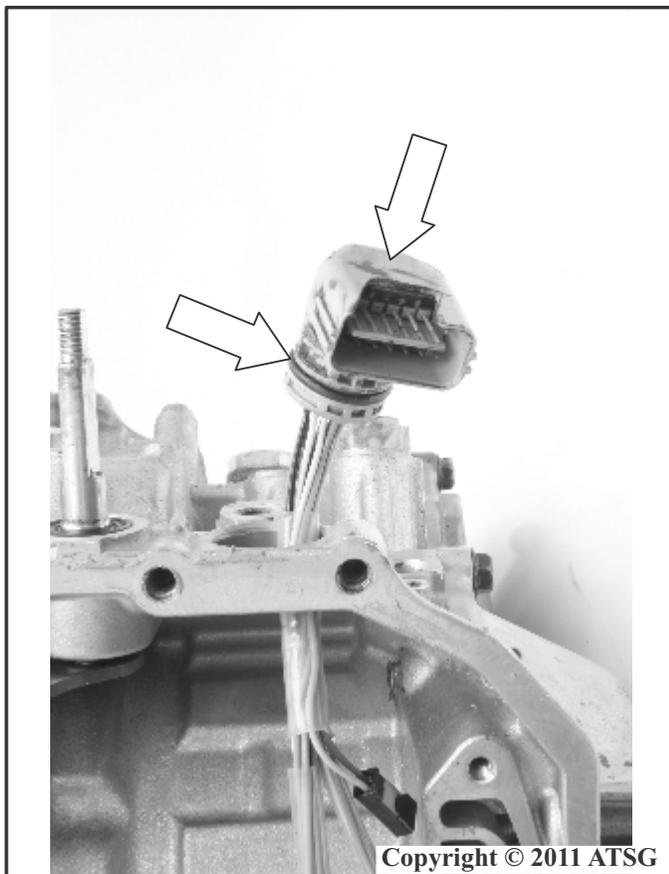

Figure 248
89. Install a new o-ring onto the transmission wiring harness assembly and coat the o-ring with a small amount of Trans-Jel® as shown in Figure 248.
90. Install the transmission wiring harness assembly into the transmission using a twisting motion while pushing carefully downward as shown in Figure 248.